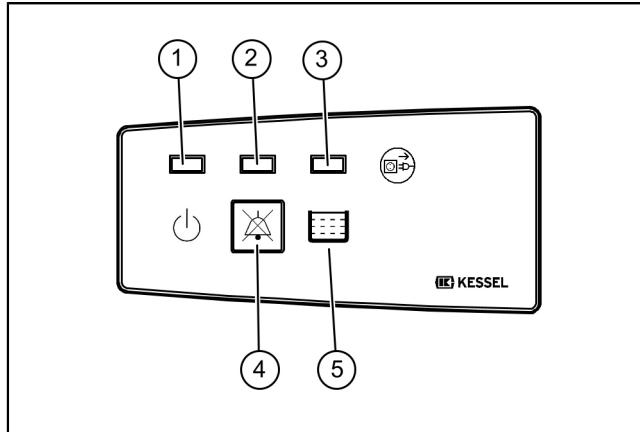

Fig. 7: Overview of displays
If a condition has occurred that triggers an alarm the alarm LED (2) lights up and if applicable, one of the other LEDs. After removing the cause of the alarm, the alarm can be acknowledged by pressing the button (5) (see "Fig. 7: Overview of displays", page 43).